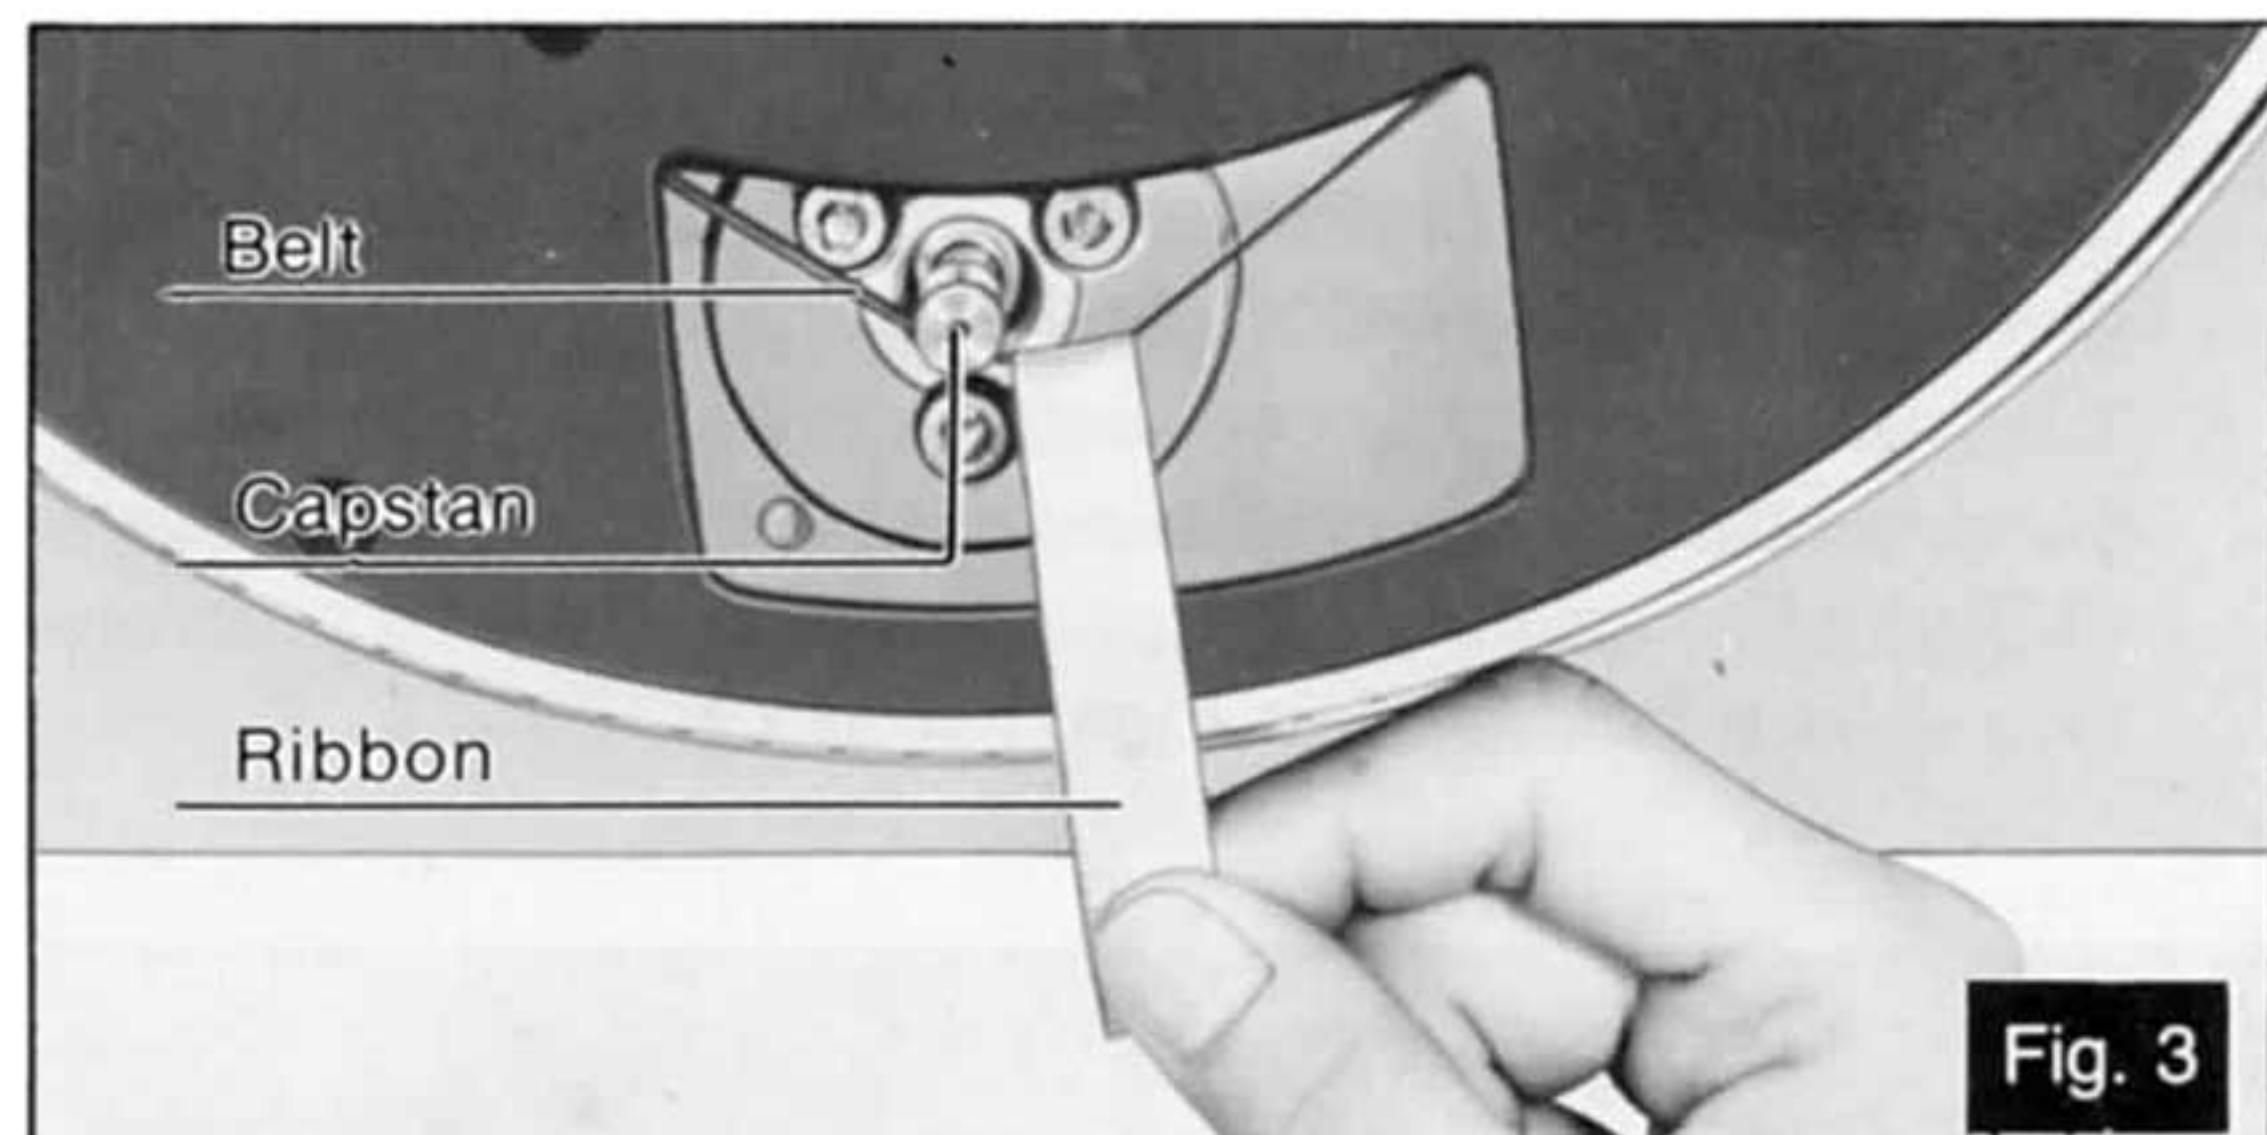

Fig. 3
2. Attach the belt to the capstan using the ribbon as shown in the picture. (See Fig. 3)